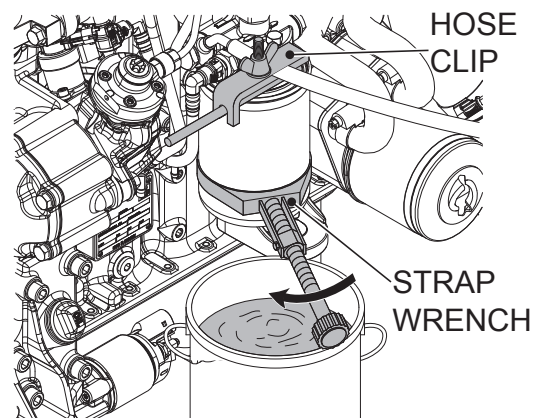

Figure 41. Fuel Fine Filter
1. Block the fuel feed line using a hose clip (Figure 41).